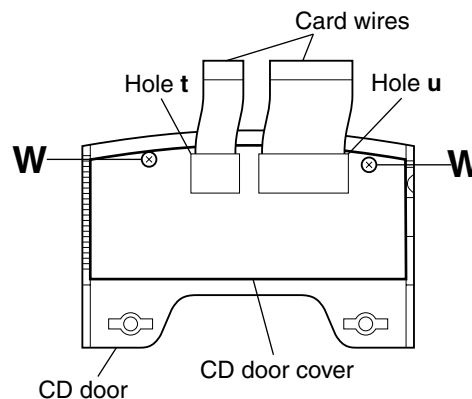

Fig.26
**[Note]** • Before attaching the CD door cover, pass the card wires of the FL display board through the holes **t** and **u** on the CD door cover. (See Fig.26.)